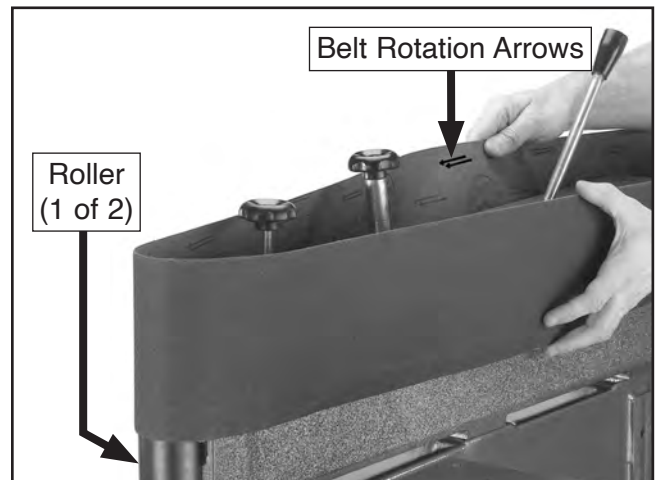

Figure 17. Installing sanding belt on rollers.
4. Making sure arrows on inside of belt point in counterclockwise direction, place sanding belt over both rollers, as shown in **Figure 17**.